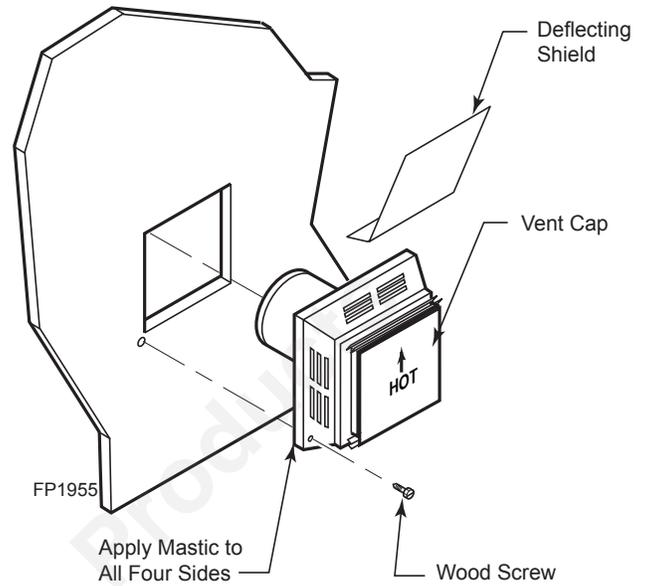

Figure 20 - Installing Horizontal Vent Cap
4. Apply a bead of non-hardening mastic around the outside edge of vent cap. Position the vent cap in the center of hole on the exterior wall with the word "UP" on the vent cap facing up. Insure proper clearance of 1" to combustibles is maintained. Attach the vent cap with four wood screws supplied. *Figure 20*